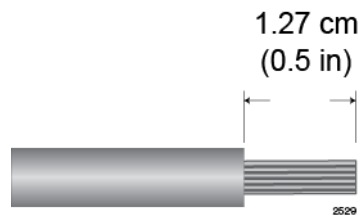

Figure 150. Stripping the Power Wires
1. Prepare adequate lengths of two stranded 8 AWG power wires by stripping them as shown in Figure 150.